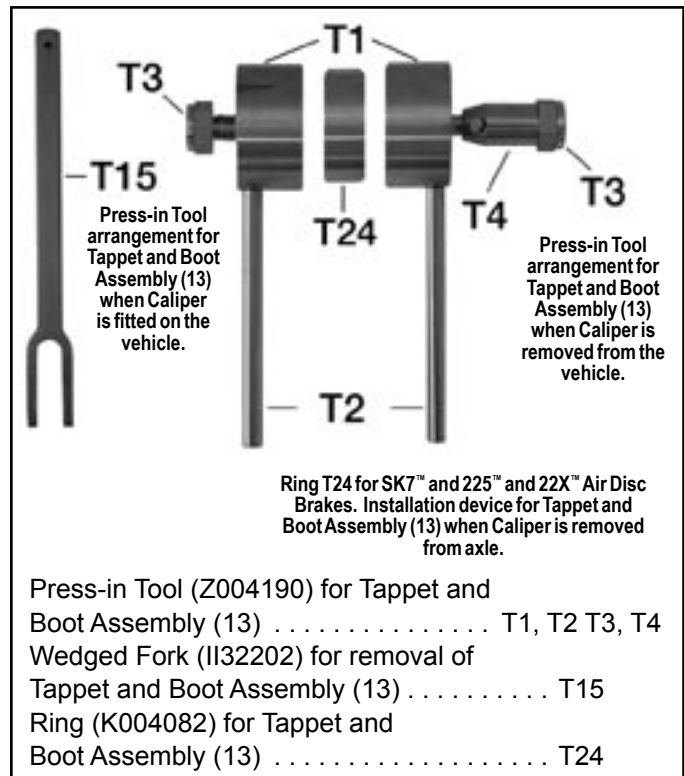
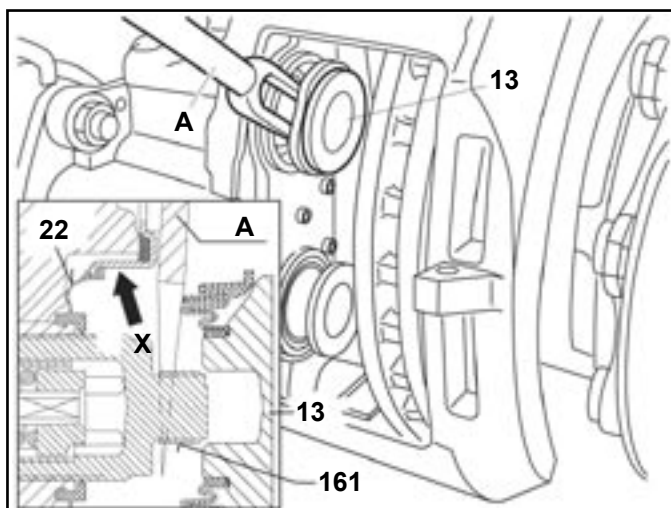

FIGURE 39 - TAPPET REMOVAL TOOL
FIGURE 40 - WEDGE TOOL USE
Removal of the tappet and boot assembly (13) requires the use of the wedge fork (A). See Figure 39. Extend the tappets less than 1.18 in. (30 mm) by turning the shear adapter (61) clockwise until there is sufficient access to the boots to remove the tappet boot from the caliper bore. A screwdriver (B) should be used to move the boot location ring - see Figure 40 and allow the wedge fork (A) to be inserted. **CAUTION:** Take care not to damage the inner sealing face (see arrow "X" in Figure 40). Gouges or grooves that would prevent a good seal necessitate caliper replacement.